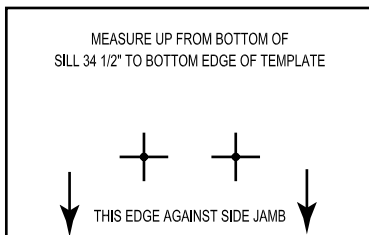

Figure 8
6. Move the strike so the top is 1/8" (3) below the latch reference mark and tighten the screws. Close the screen and check the latch operation. Raise or lower the strike as needed. See Figure 8.